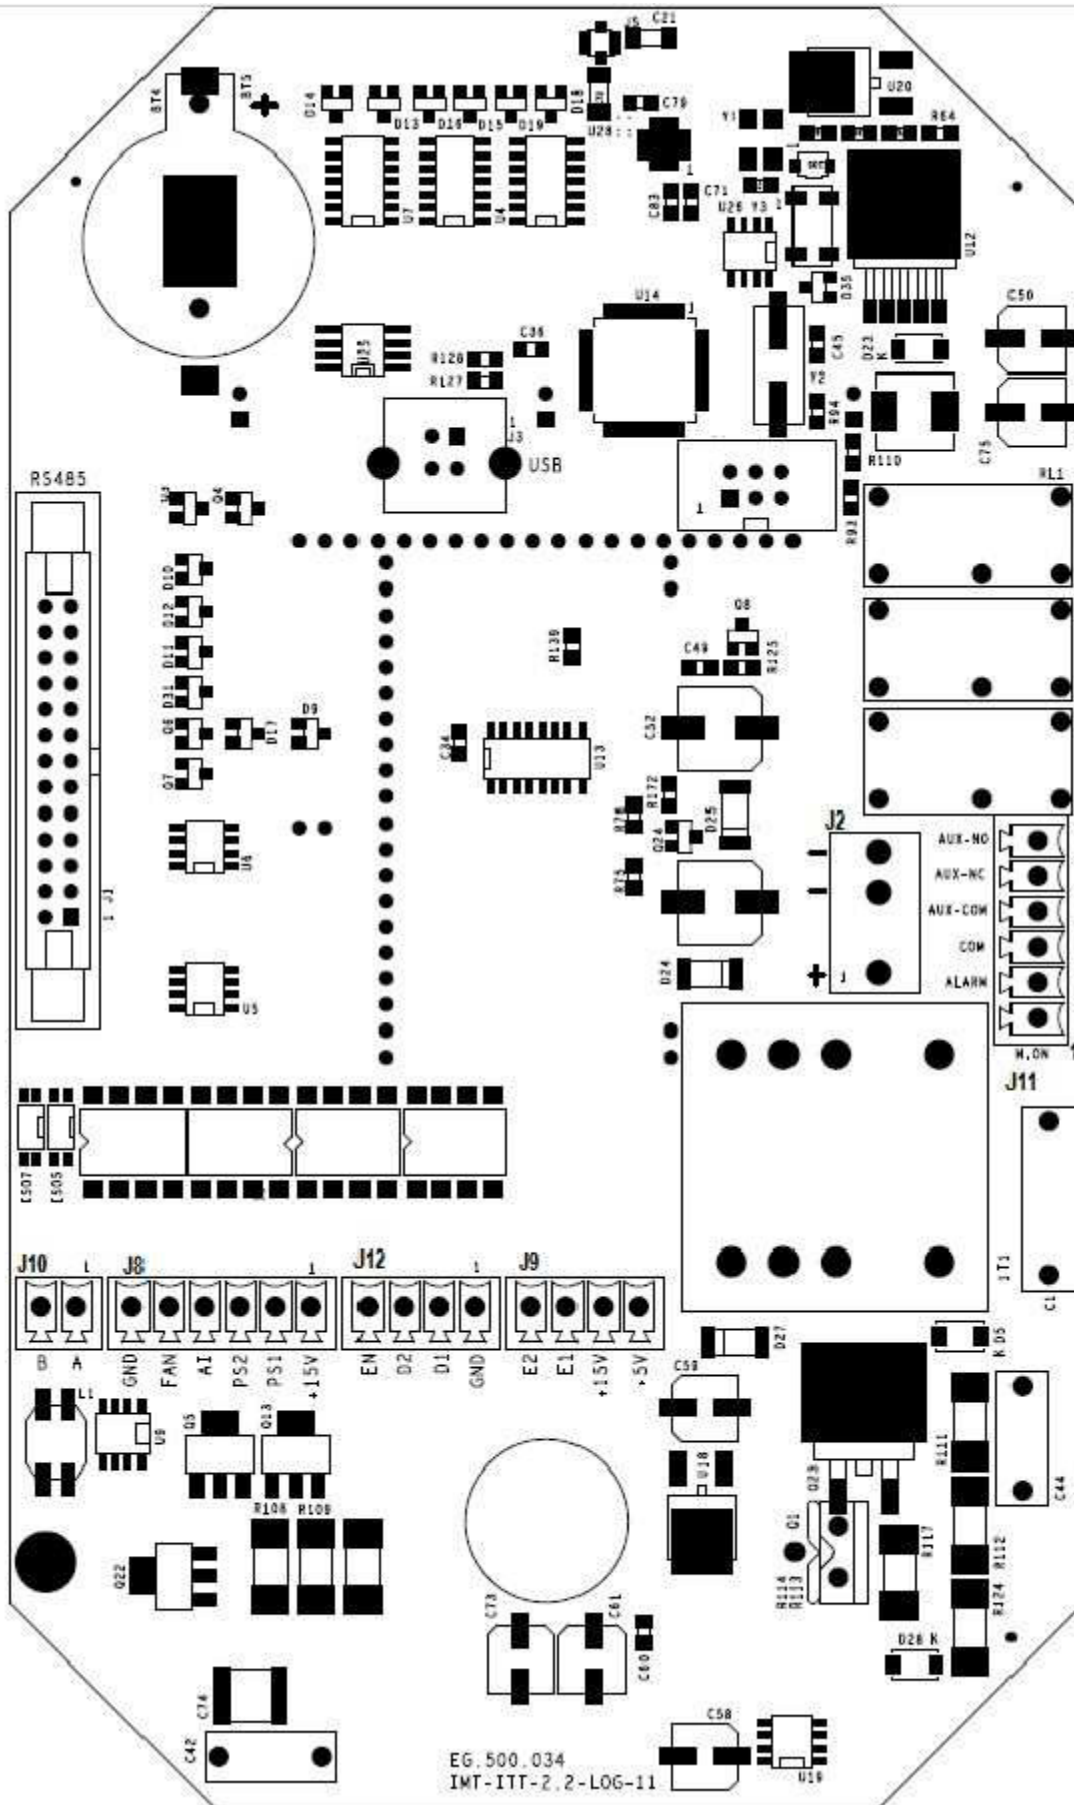

Figure 12: Logic board of IMTP(D)2.2-ITTP(D)2.2
- J9-5,8 for IMTP(D)2.2-ITTP(D)2.2 (fig. 12);
- For IMTP(D)2.2M-ITTP(D)2.2M model: Relay output contact capacity 250V, 2 Ampere max closed when the motor is running, between the M.ON terminals (pole 1 of J11, fig. 12) and COM (pole 3 of J11, fig. 12);
- For IMTP(D) 2.2M-ITTP(D) 2.2M model: Relay output contact capacity 250V, 2 Ampere max. closed when the inverter is in an alarm condition, between the terminals marked ALARM (pole 2 of J11, fig.12) and COM (pole 3 of J11, fig.12).
- For IMTP2.2 and ITTP2.2: there is a relay output contact (J11-3,4, AUX-COM, fig.12) that close, with a 3 seconds delay, when the pressure is less than the reference value and the motor velocity arrive to the maximum, then re-open when the pressure is higher than the reference value and the flow arrive to the minimum stop value; this relay contact is 2 Ampere - 250Vac maximum, useful to drive a contactor for an auxiliary ON-OFF pump, and work only when the control mode is in Pressure (single pump absolute pressure control); Warning: connect only contactors or relay coils with maximum voltage of 250Vac – do not exceeds;